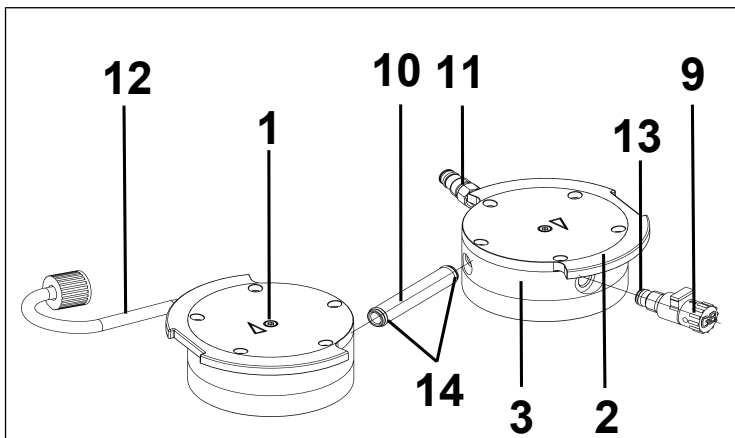

Fig.14: Change O-rings
2. Pull the connection tube (10/ Fig. 14) out of the head cover (3).
- i** The two hose connections (11) and (12) remain mounted in the head covers.
3. Replace the two O-rings (14) on the interconnection tube (10/ Fig. 14).
4. Loosen the internal cap screw (1) on both pump heads.
5. Remove the two pressure plates (2) together with the two internal cap screws (1).
6. Unscrew the gas ballast (9/Fig. 14) from the head cover (3).
7. Replace the O-ring (13) on the gas ballast (9/Fig. 14).
8. Screw the gas ballast (9/Fig. 14) into the corresponding head cover (3) as far as it will go. Then turn it back again until the surface is oriented upwards.
1. Remove the head cover (3) from the intermediate plate (6).
2. Remove the old valve plates/seals (4).
3. Carefully clean the intermediate plate (6) (if there are deposits on it).
4. Insert the new valve plates/seals (4) into the corresponding seats on the intermediate plate (6).
6. Dispose of the replaced valve plates/seals (4) properly.
7. Insert the connection tube (10/Fig. 14) back into the head cover (3).